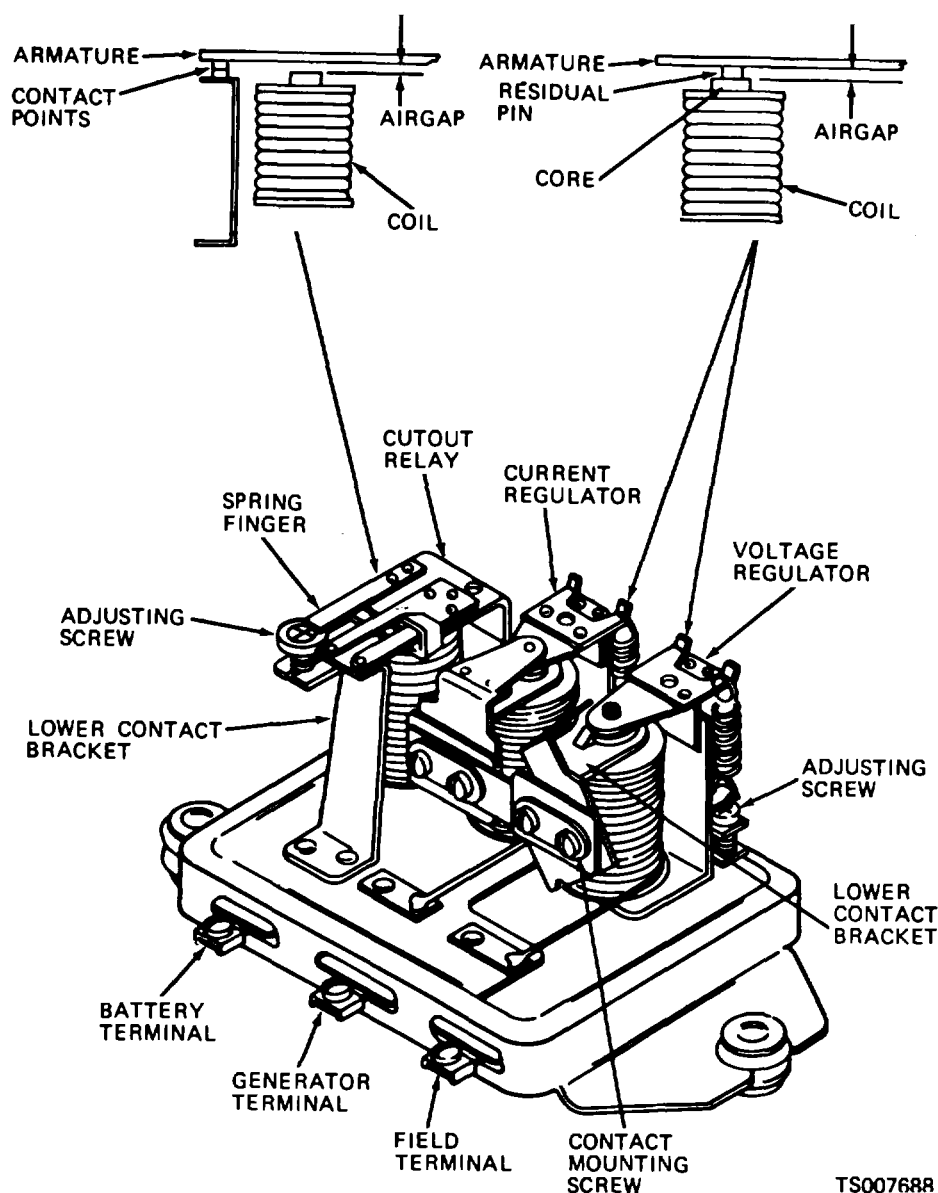

Figure 4-15. Voltage Regulator, Cover Removed
a. *Testing and Adjustment.* Figure 4-15 illustrates the voltage regulator with the cover removed to identify the internal parts of the regulator.